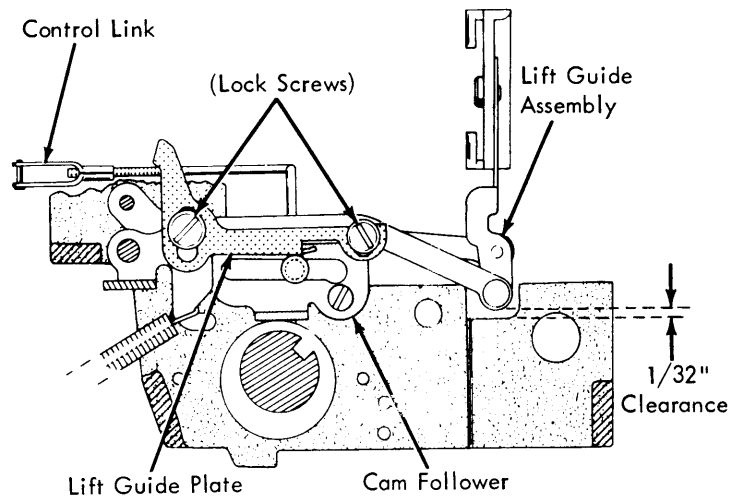

FIGURE 196. Ribbon Lift Guide Plate
1. Lift Guide Plate - With the ribbon lift cam follower on the low point of the lift cam, position the lift guide plate on the arm of the lift guide assembly to satisfy two conditions (Fig. 196).
- a. Position the lift guide plate vertically so that the rear of the lift guide assembly rests $1/32$ " above the carrier casting when the stencil lever is not in the stencil position (Fig. 196).
A good check for the spreading effect illustrated by Figure 197-b is to alternately type the degree and underscore beginning with the underscore in phase with a high ribbon lift operation. The lift pattern illustrated by Figure 196-e should occur. If the lowest underscore strikes the ribbon approximately .050" from the bottom edge of the ribbon and the highest degree strikes the ribbon approximately .030" from the top edge, then the spreading condition illustrated by Figure 197-b does not exist. (The control link adjustment which controls the position of the entire lift pattern on the ribbon must be considered when using this check.)